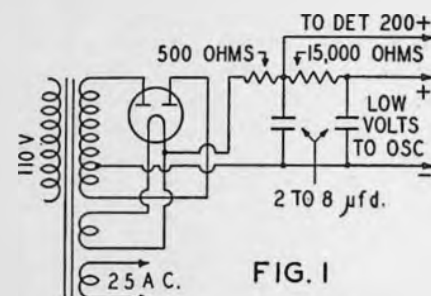

FIG. 1
and (2) the converter won't need that much B power. A resistance and capacity filter is entirely adequate. It is also the type in which the rectifier tube feeds into a relatively high A.C. impedance which is easier on the rectifier tube than the more usual arrangement where the rectifier tube feeds into a condenser or relatively lower A.C. impedance. The filter system is shown in Fig. 1.
Note—Through a drafting error the high-voltage center tap in Fig. 1 is shown off-center.—Ed.